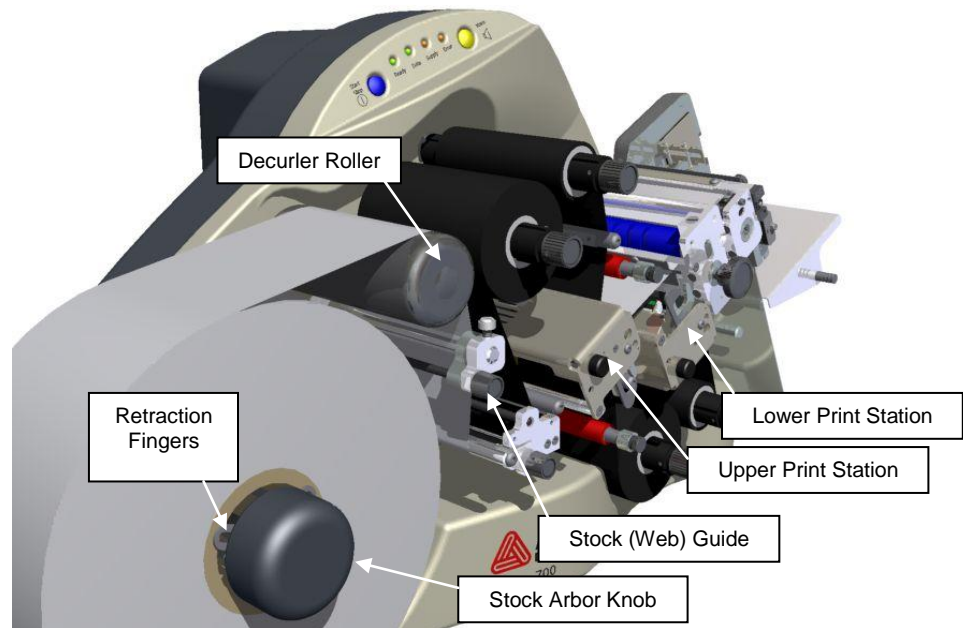

Figure 9. Stock Supply through Print Stations
Before loading a roll of stock, you will need to be familiar with the following parts of the SNAP 700 printer (Refer to Figures 9 and 10).
4. Slide the stock roll onto the Stock Arbor (see Figure 9).